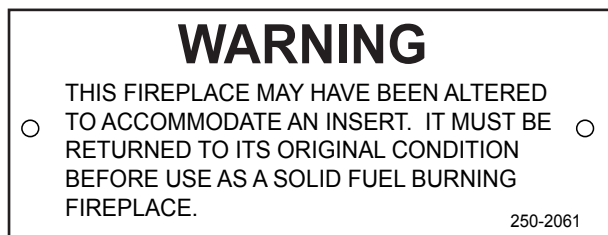

Figure 38.2
- The permanent metal warning label provided in the component pack must be attached to the back of the fireplace, with screws or nails, stating that the fireplace may have been altered to accommodate the insert, and must be returned to original condition for use as a conventional fireplace. **Figure 38.2.**